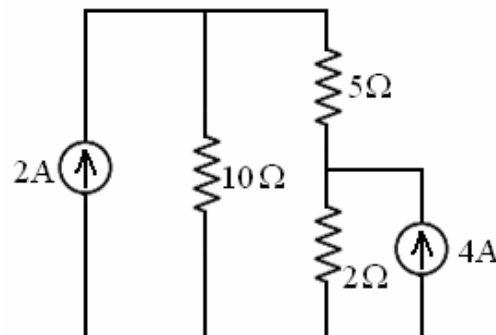

Figure 3
- b) Find the voltages across the two current sources in the below circuit (shown in Figure 3) using super position theorem. [7+8]